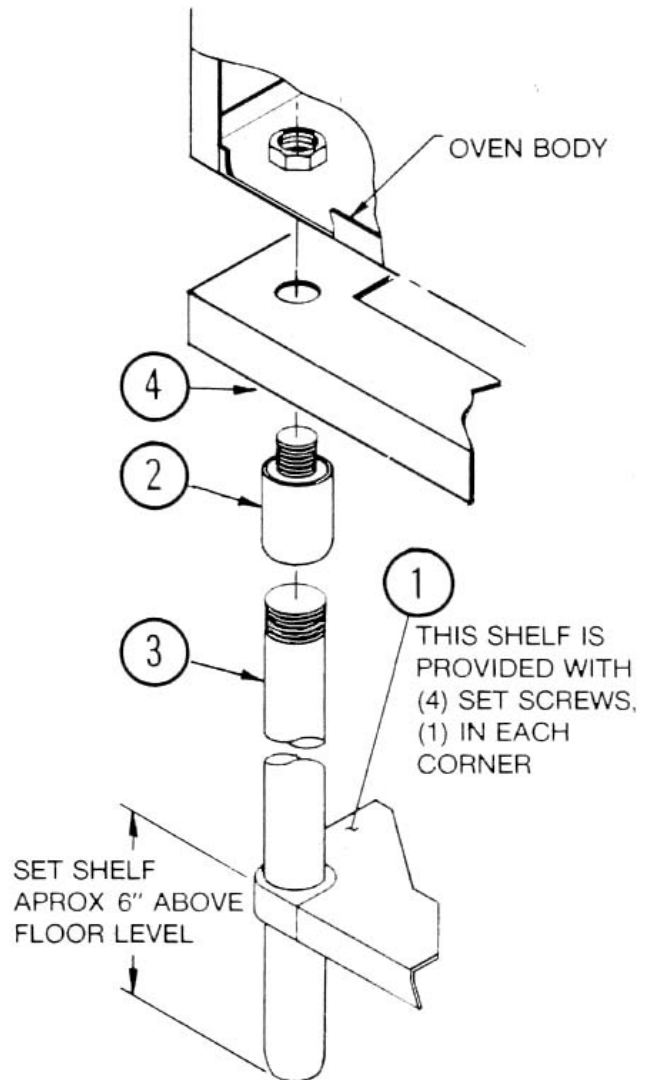

Fig. 1
1. Insert legs (*Fig. 1 No. 3*) through holes in shelf (*Fig. 1 No. 1*) Do not tighten set-screws in corners of shelf.
2. Screw leg tops (*Fig. 1 No. 2*) onto legs. (*Fig. 1 No. 3*)
3. Insert leg tops (*Fig. 1 No. 2*) through holes in angle iron frame (*Fig. 1 No. 4*) into weld nuts in bottom of oven.
4. Screw leg tops (*Fig. 1 No. 2*) into weld nuts by turning leg and top assemblies.
5. Raise shelf (*Fig. 1 No. 1*) to desired height and tighten set screws in shelf corners.